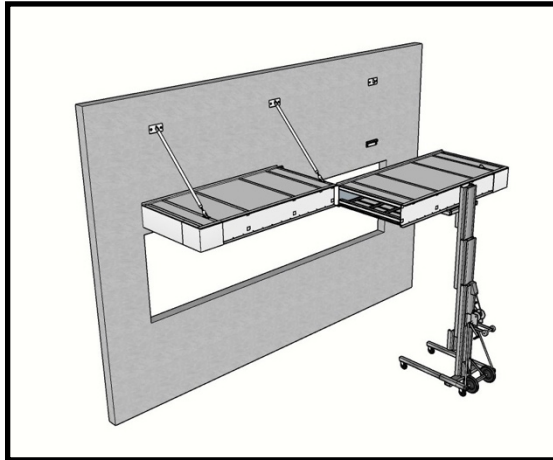

Fig 9
8. If multiple frames are used to complete one canopy run, raise the next frame to the desired height to sit in the Hanging Brackets (#8). Clamp the frames together to ensure good alignment of face channel. Remove a Soffit Panel (#11) on either side of the frame seam to get access to purlins. Bolt frames together (Fig 9). Attach canopy to Hanging Brackets as mentioned above in Step 7.